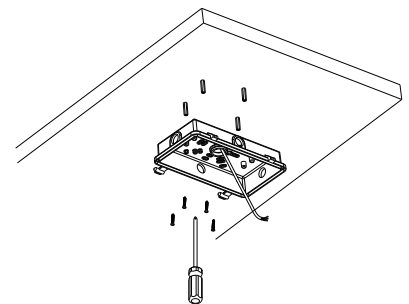

Figure 2-4
4. Insert the wires through the plug hole, and mount the cover on the ceiling with screws. Fig.2-4